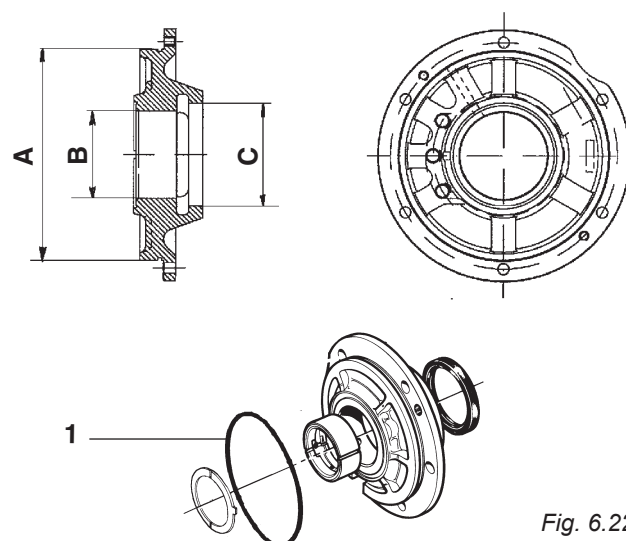

Fig. 6.22
6.13 REAR MAIN BEARING (Fig. 6.22)
AT EACH DISASSEMBLY REPLACE THE O-RING (1) (FIG. 6.22).